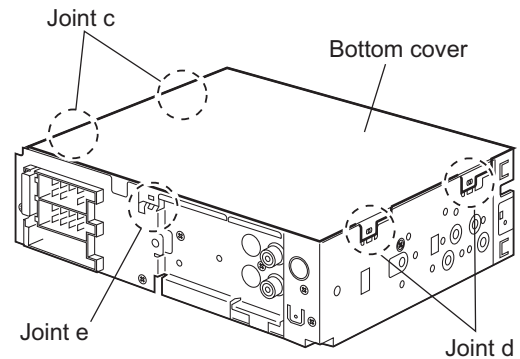

Fig.5
2.1.4 Removing the bottom cover (See Figs.5 and 6)
Do not damage the main board when releasing the joint **e** using a screwdriver. (See Figs.5 and 6)